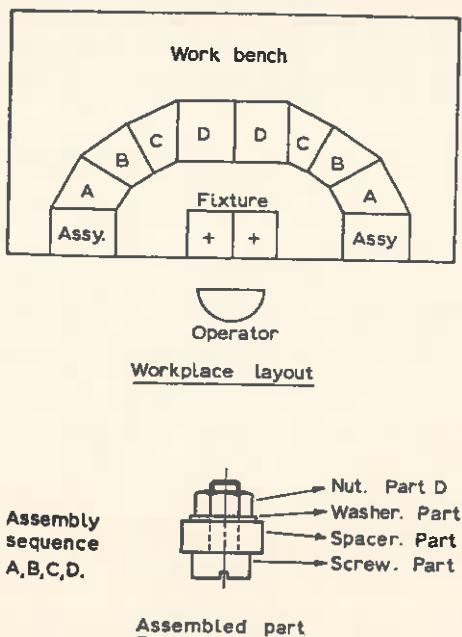

Fig. 9.23. Workplace layout for assembled part
- In the case of tote boxes, bins, loose or portable tools, etc., there should be a definite place for their location within the working area. Hence the operator can develop habitual, confident movements when reaching for equipment often without any need for the eyes to direct the hands. The mental effort and strain are less. For the same reason, material and tools used at the workplace should always be located within the working area to permit the best sequence of operations (refer Fig. 9.23).